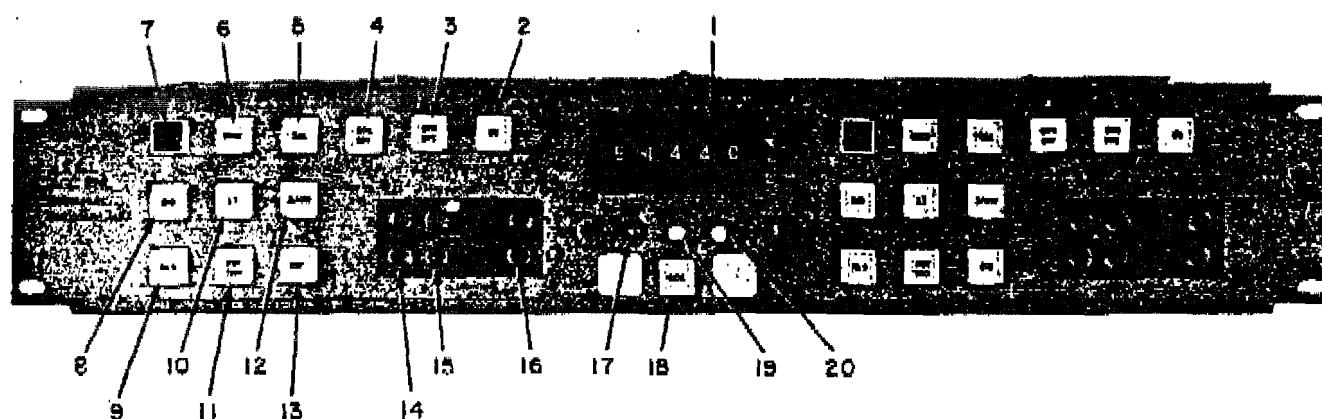

Fig. 1—Jack, Key, and Lamp Access Panel
2.01 The J, K & L ACC PNL (Fig. 1) is 23 inches wide by 4 inches high. It can be mounted in a testboard or installed in an equipment bay.
2.03 As depicted in Fig. 1, all keys and jacks for port A and the controls and indicators common to both ports A and B are labeled. Each of these items (assume an accessed circuit for keys that require this condition) are described as follows: